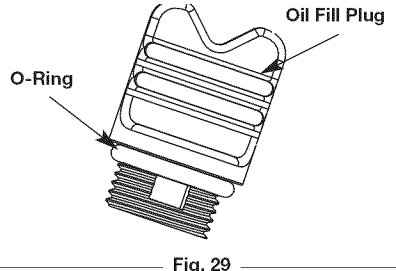

Fig. 29
**NOTE:** Make sure the O-ring is in place on the oil fill plug when checking and changing the oil (Fig. 29).